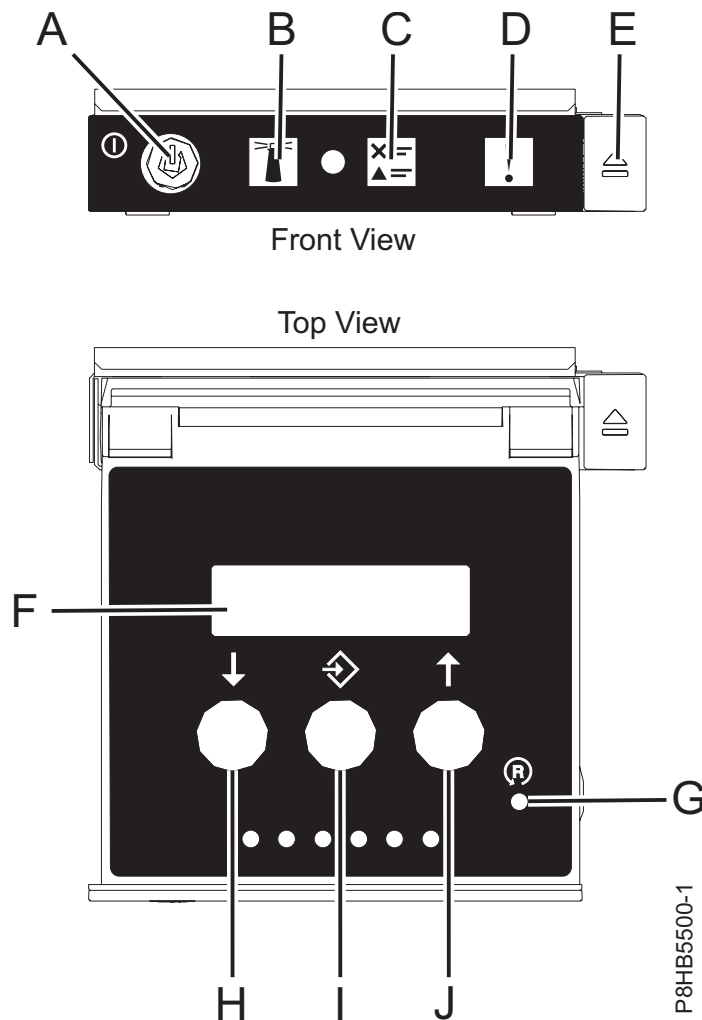

Figure 149. Pinhole switch that is on the control panel
If you are still not able to access the service network, reset the service processor by pressing the pinhole switch (G) on the control panel. See Figure 149.